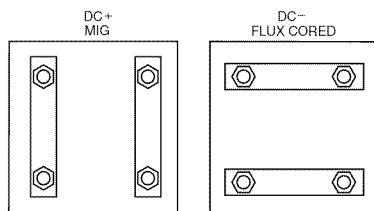

Figure 6. Welder Polarity Selections
- Replace the copper straps horizontally in the dc Straight Polarity (dc – Flux Cored) configuration shown in Figure 6.